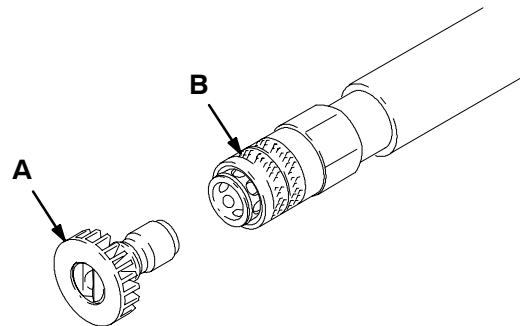

Fig. 2
3. Without holding your hand over the spray tip (A), pull back the quick coupler ring (B). Remove the current tip and/or install a different one. Then push back the ring. See Fig. 2.